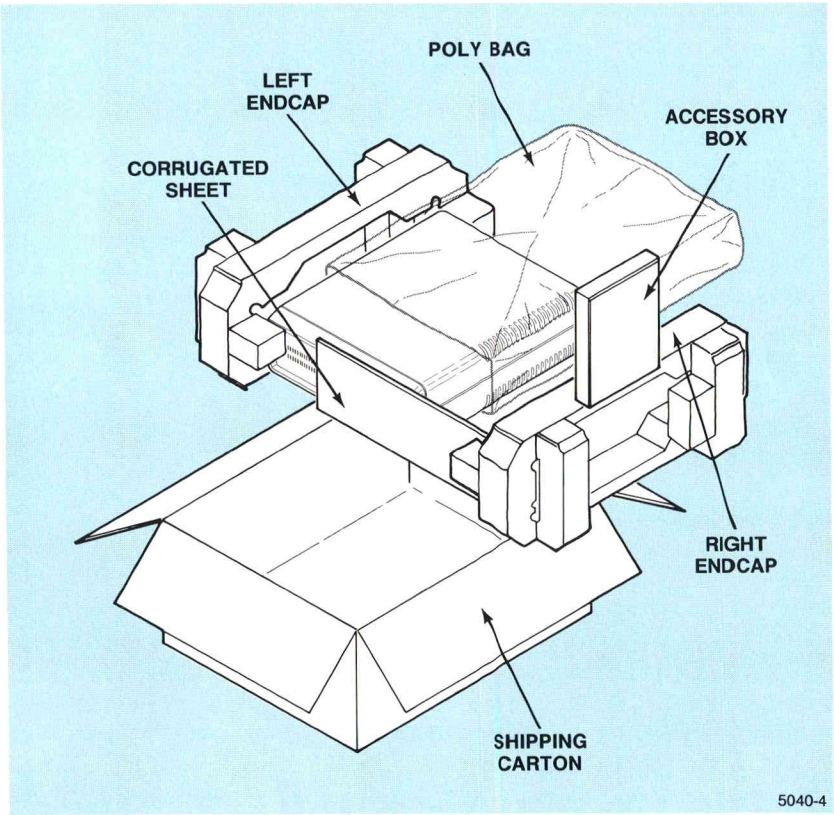

Figure B-1. Packaging Assemblies.
3. Remove the accessory box from the side of the rasterizer (see Figure B-1), and open box to remove the accessories.